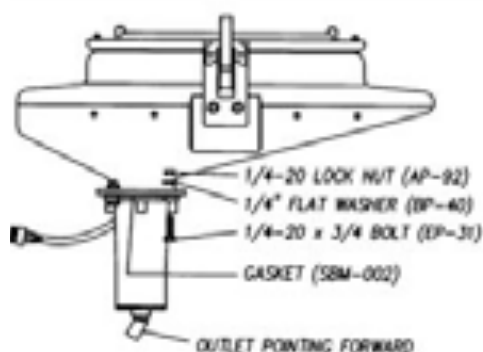

Figure 10
3. Place the 1/4" x 1" bolts up through the meter, base container flange, and washer. Lightly secure with the lock nuts (see Figure 10).